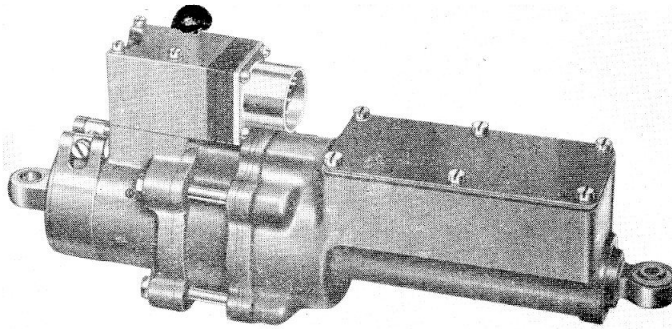

Fig. 1. Typical A1000 series actuator
2. A typical actuator is illustrated in fig. 1. In general, these units comprise six main assemblies, viz., motor, clutch, electro-magnetic brake, gearbox, ram and screw-shaft and limit switch arrangement.